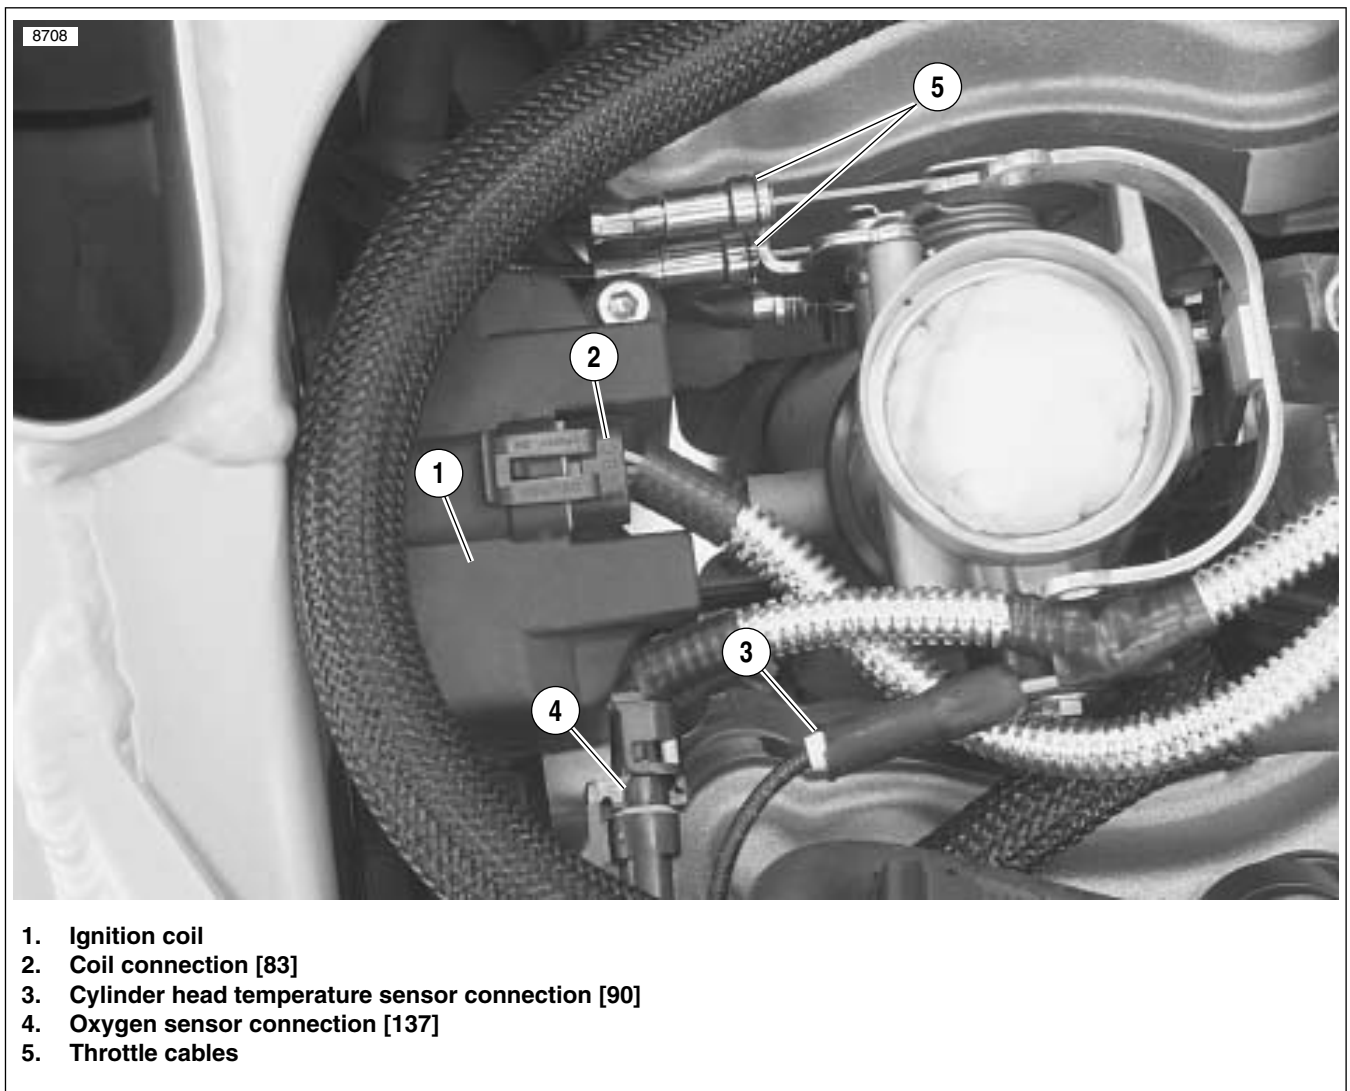

Figure 3-14. Electrical Connections and Throttle Cables (Typical)
18. See Figure 3-14. Connect throttle cables from induction module/throttle body.
- a. Temperature sensor (3) [90].
- b. Oxygen sensor (4) [137].
20. See Figure 3-14. Install the ignition coil and connect (2) [83] and tighten fasteners to 120-144 **in-lbs** (13.6-16.3 Nm).